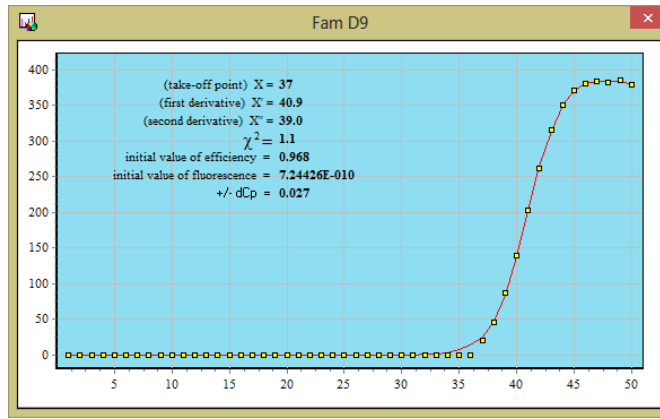

Fig.69 The parameters of fitting of PCR- sigmoid
- PCR-sigmoid fitting parameters (Fig.69).